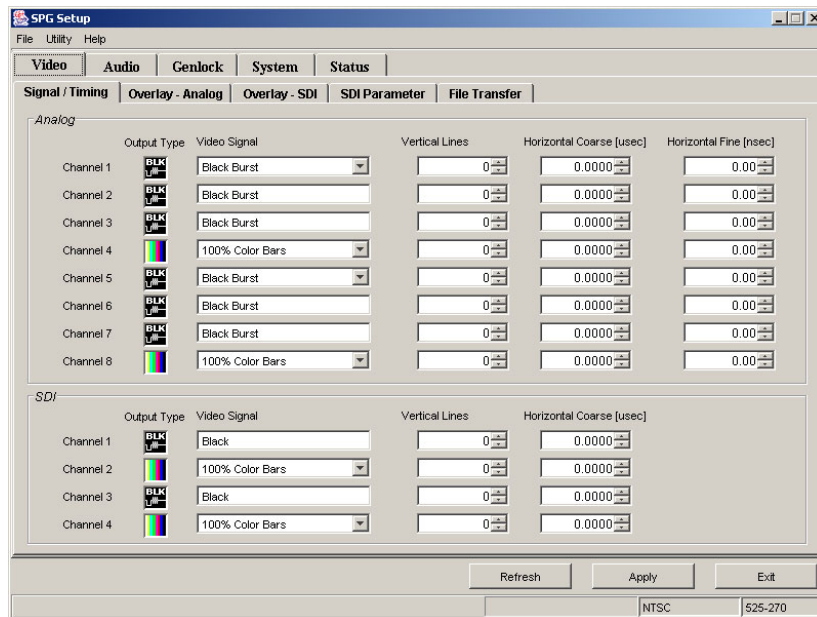

Figure B-2: Java applet
2. Select **Launch Applet** on the Web browser window. The Web browser launches the Java applet and display the screen shown in Figure B-2.